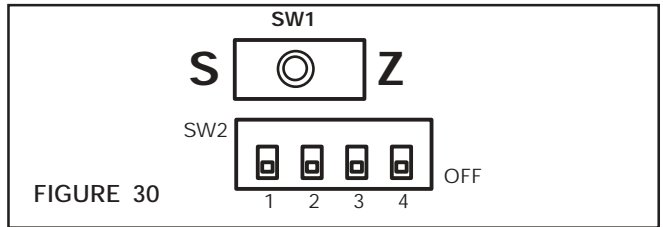

FIGURE 30
2. Press SW1 to Z (See Figures 30 and 34).
4. Press SW1 to S (See Figure 30).